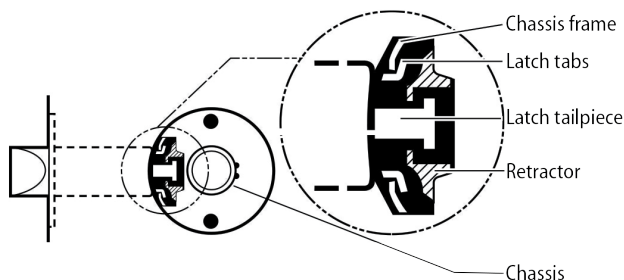

Figure 5 — Engaging the latch and retractor
- With the latch in place, install the chassis from the outside. Make sure the latch tabs engage the chassis frame and the latch tailpiece engages the retractor as shown in Figure 5.